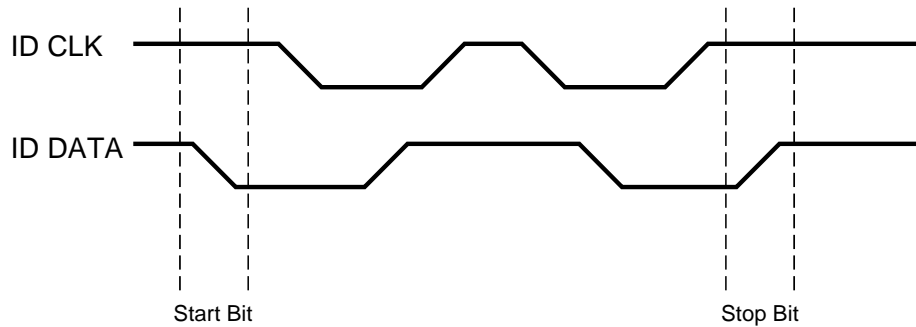

Figure 5-8
1. The IDDATA line (pin 6 of U105) is set from high to low while the IDCLK line (pin 5 of U105) is held high. This action initiates a start command to the ROM to transmit data serially to the mainframe (Figure 5-8).